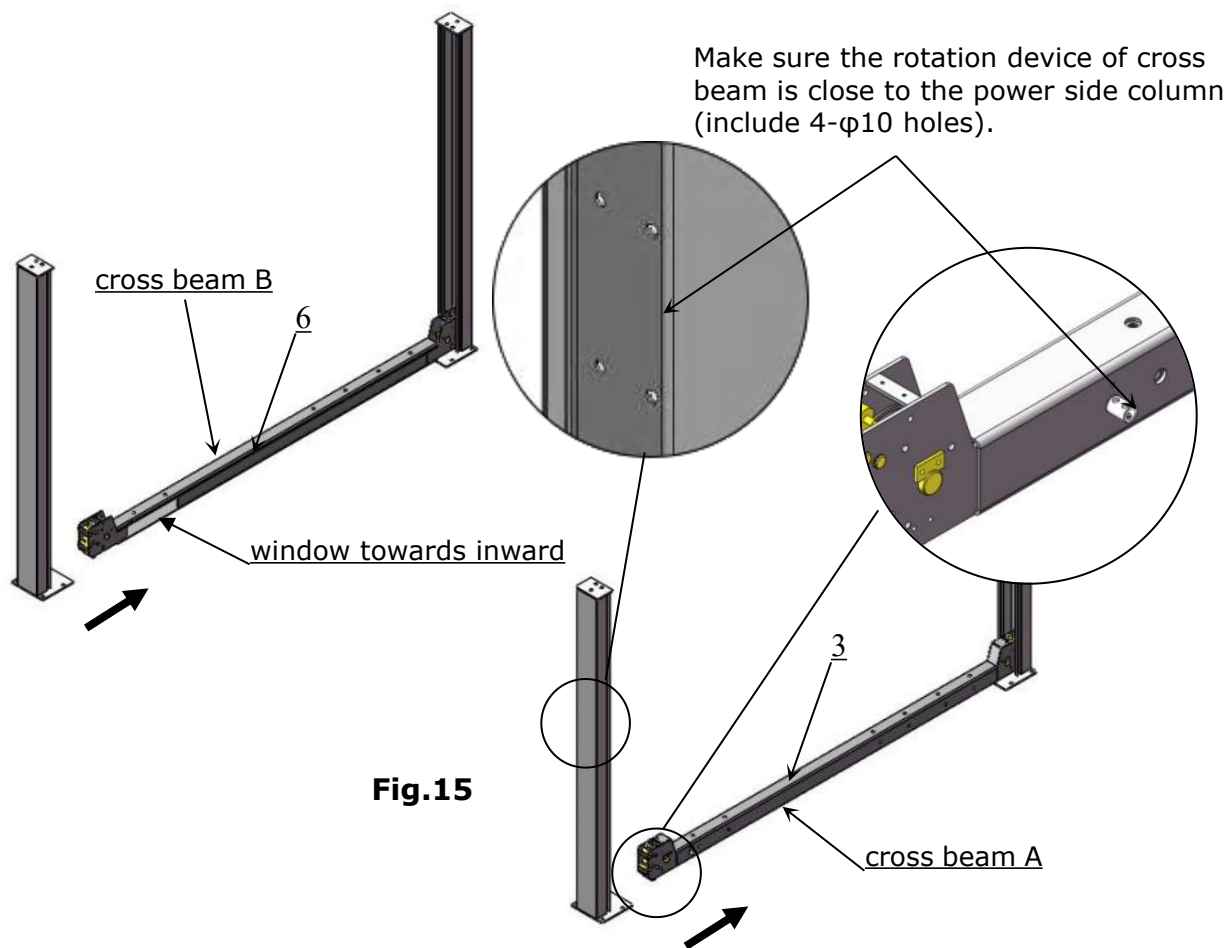

Fig.16
D. Install cross beams (See Fig.15, Fig.16).